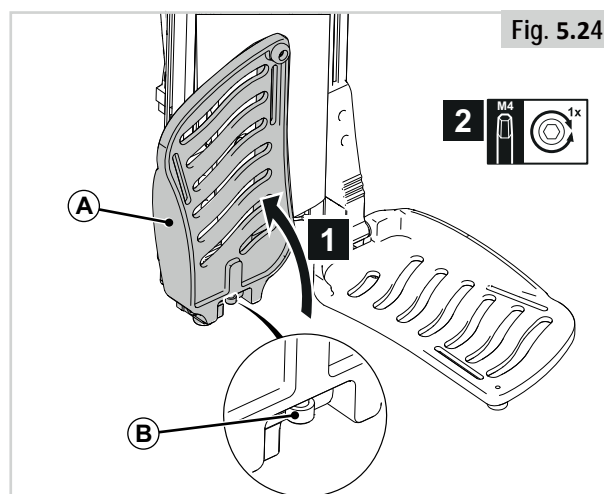

Fig. 5.24
- As with all moving parts be careful not to trap your fingers, (Fig. 5.24).
#### Ankle angle (Fig 5.24)